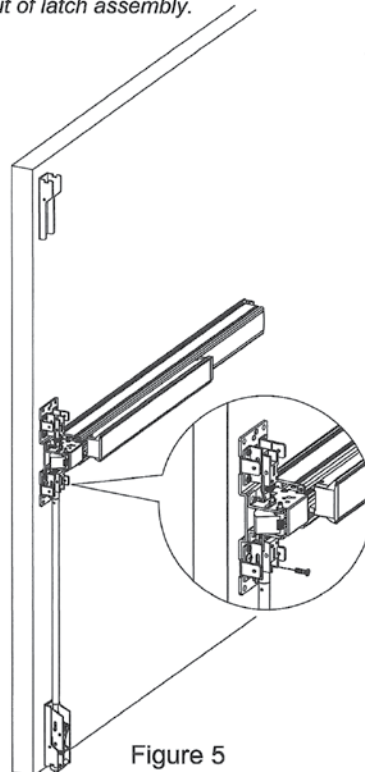

Figure 5
3. Tighten bottom rod on arrow mark position of chassis assembly. (See Figure 5)